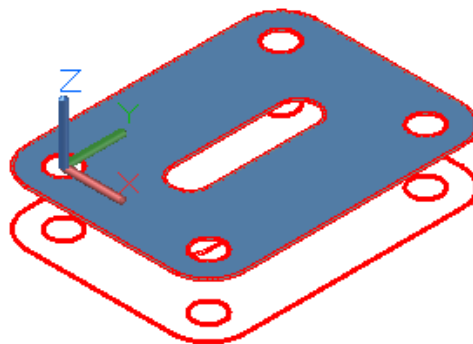

Figure Step 12
Step 12 Using the SUBTRACT command, subtract the five inner regions that you created in Step 9 from the region you created in Step 11. (Figure Step 12)